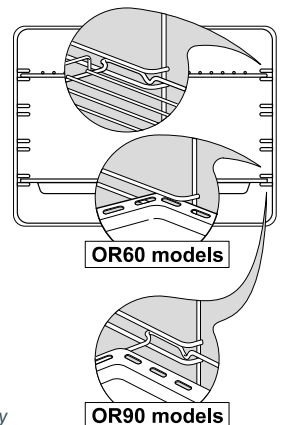

Fig. 29 Correct position of shelves and grill tray
- Slide in the shelves and grill tray as shown in Fig. 29.